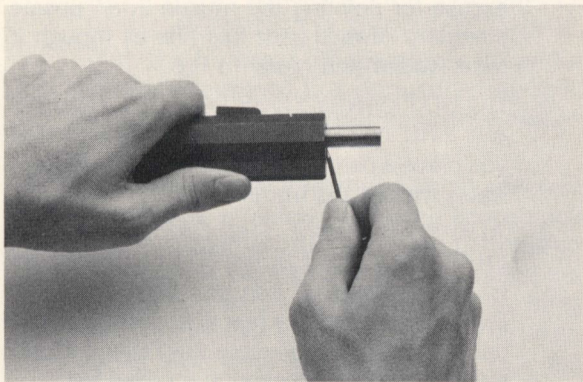

Figure 1
Before the first firing of your new rifle, insert the ramrod into the bore and scribe a mark on the brass end where it protrudes from the muzzle **Refer to Figure 1.**
- 10. ALWAYS BE CERTAIN THAT EACH CHARGE IS FULLY SEATED.** We recommend that you make two reference marks on your ramrod. First determine how far the ramrod enters the barrel when the barrel is unloaded and place an "unloaded barrel" reference mark on your ramrod. **(Refer to Caution 5 and Figure 1.)** Then during your first shooting session establish the distance the ramrod enters the barrel